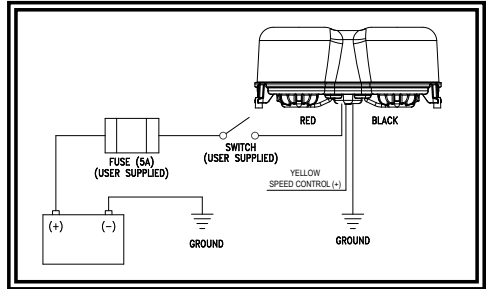

Figure 2
5. Connect the power wires as shown in the wiring section (see Figure 2).
The wiring for this configuration is as shown in Figure 2. All wiring should be a minimum of 18 AWG. The positive line must have a 5 amp fuse as shown. A switch may be used to control the on/off function. Routing a ground wire directly to the negative battery terminal is suggested. For a 120 FPM rotation speed, connect only the red wire to (+) power and isolate the yellow wire. For a 75 FPM rotation speed, wire the red and yellow wires together to (+) power.